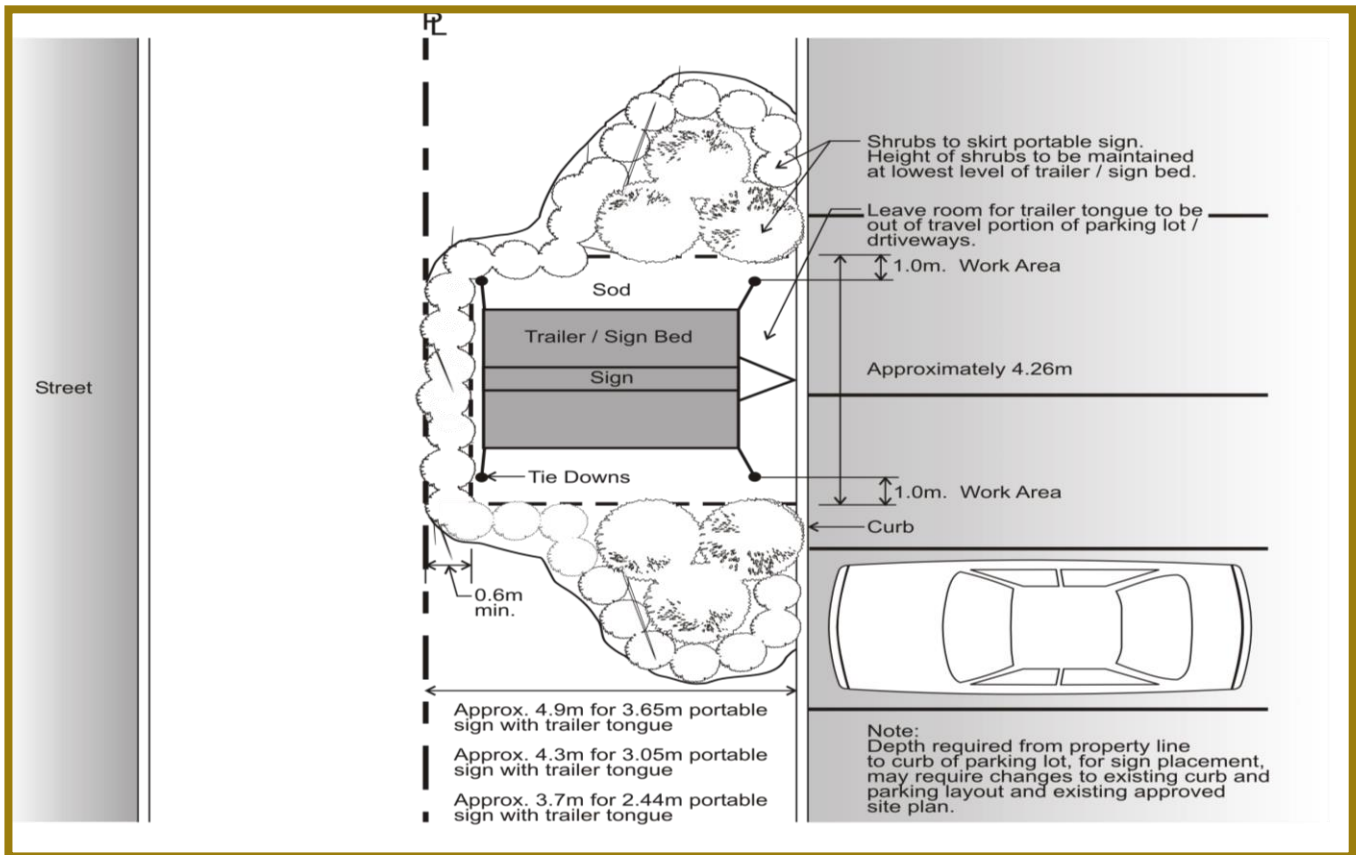

Figure 15.3: Conceptual Layout and Landscape Requirements for Portable Signs
- To keep portable sign locations out of the road right-of-way and improve the quality of the streetscape, specific areas must be selected for the placement of portable signs. Conceptual layout and landscaping requirements for portable signs are found in Figure 15.3.